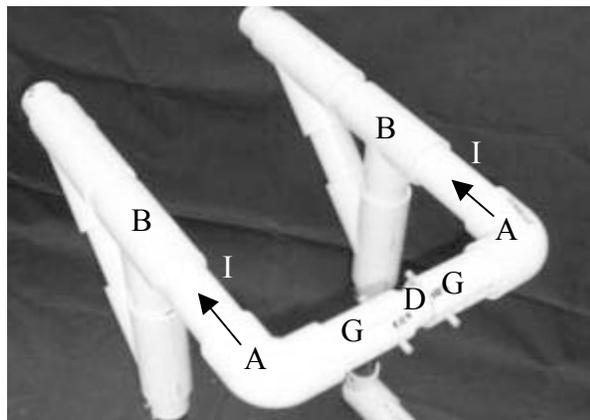

FIGURE 25 – Step 20 – Joining Side Frame and Rear Frame.
**Step 20.** Coat the inner surface of both ends of the upper rear wheelchair frame (Part A) with PVC glue and insert into both Part I's of the side frames as shown in Figure 25. Once again, be sure to maintain the alignment of the frame such that the sides are parallel and top horizontal with the floor. Use the mallet to seat the connections.